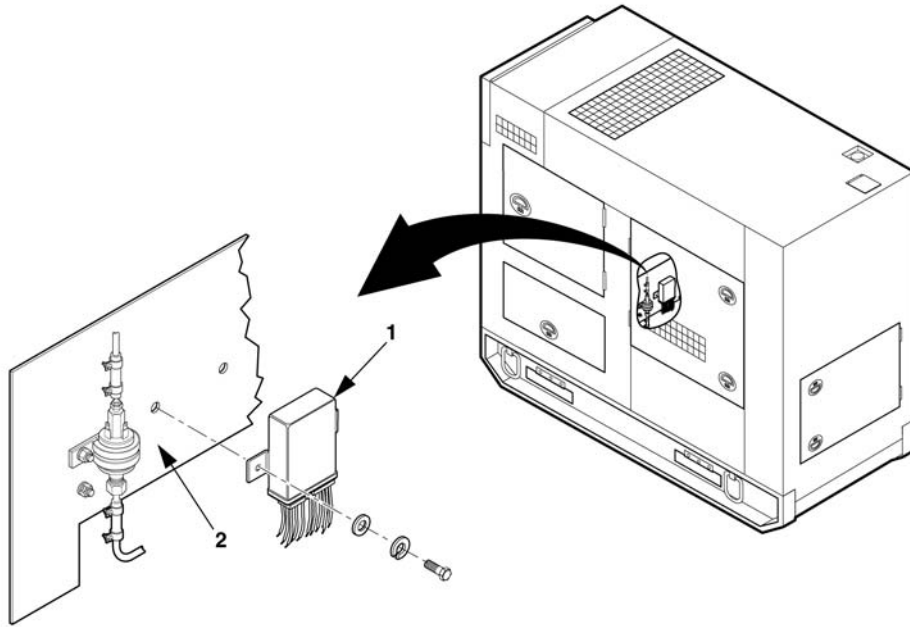

Figure 4-33. Control Unit Removal
6. Remove control unit (1), Figure 4-33 from output box (2). Replace existing hardware.